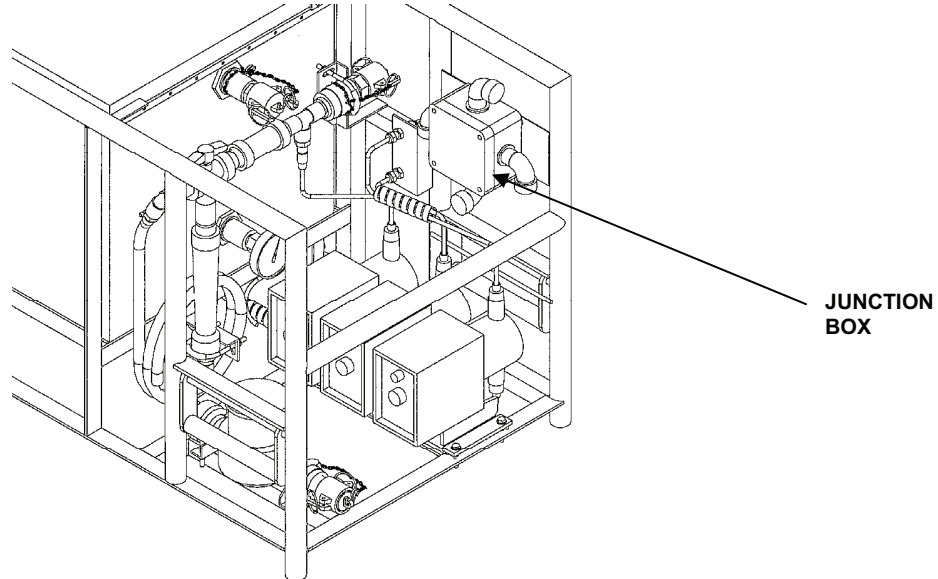

Figure 1. Chemical Module Junction Box Location.
2. The junction box is located on the module above the chemical pumps. See Figure 1.